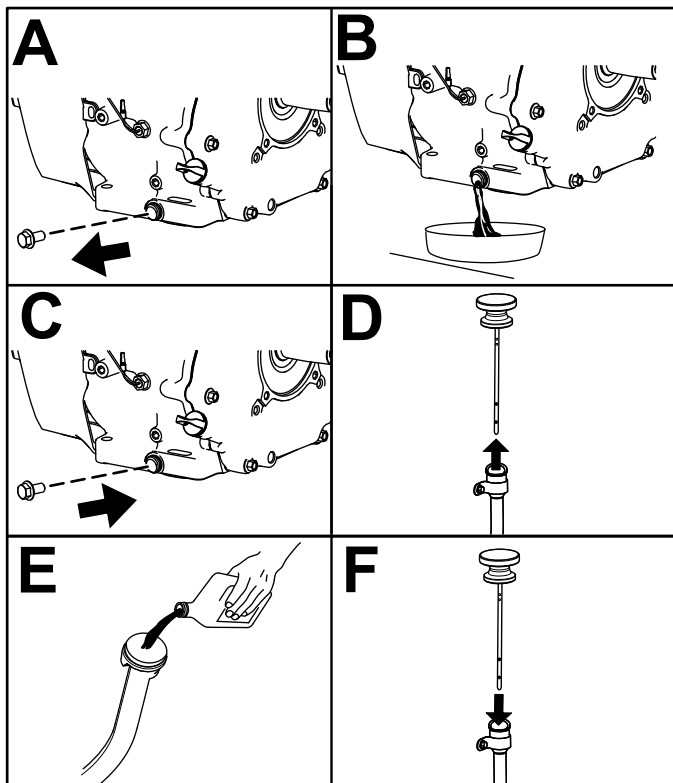

Figure 42
6. Change the engine oil as shown in Figure 42.